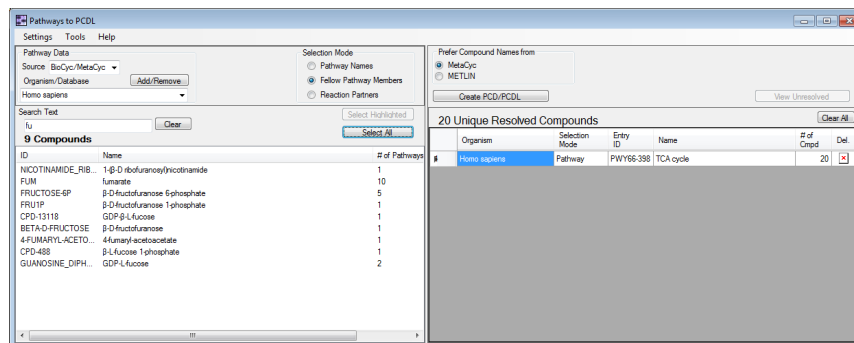

Figure 16 Fellow Pathway Members Compounds List
- c Type **fu** for the **Search Text**. Nine compounds are available in the **Compounds List** as shown in **Figure 16**.